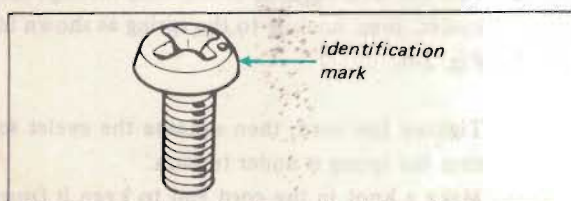

Fig. 2-1 ISO screw
**Note:** All screws in the STR-6045 are manufactured to the specifications of the International Organization for Standardization (ISO). This means that the new and old screws are not interchangeable because ISO screws have a different number of threads per mm compared to the old ones. The ISO screws have an identification mark on their heads as shown in Fig. 2-1.